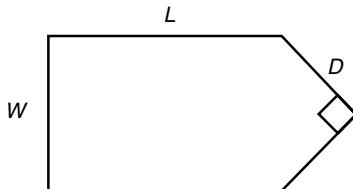

Figure P12
12. A fence around a field is shaped as shown in Figure P12. It consists of a rectangle of length L and width W , and a right triangle that is symmetrical about the central horizontal axis of the rectangle. Suppose the width W is known (in meters) and the enclosed area A is known (in square meters). Write a user-defined function file with W and A as inputs. The outputs are the length L required so that the enclosed area is A and the total length of fence required. Test your function for the values $W = 6$ m and $A = 80$ m².